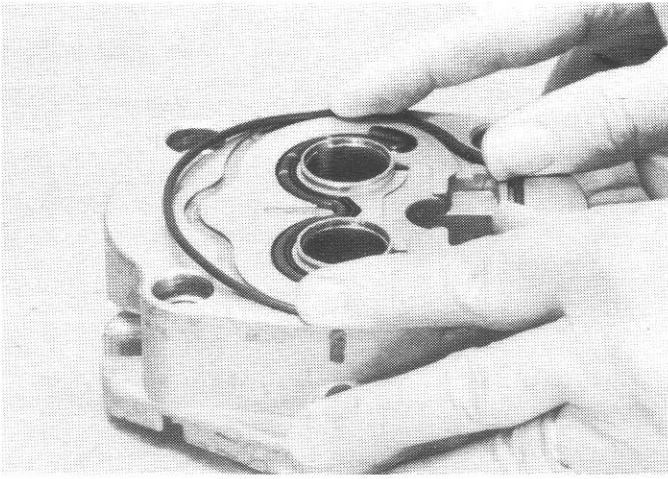

Fig. 8
13. Install flange o-ring, and "E" shaped back-up strip. Use clean heavy grease to hold the o-rings and back-up strip in position. (Fig. 8)